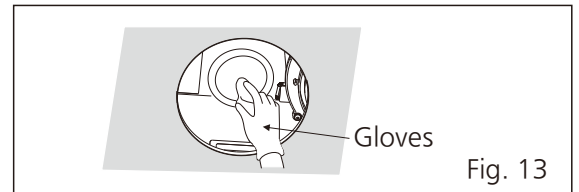

Fig. 13
5. Using a cloth dampened with kitchen detergent, remove any dirt from fan body. Wipe dry with clean cloth. (Fig. 13)